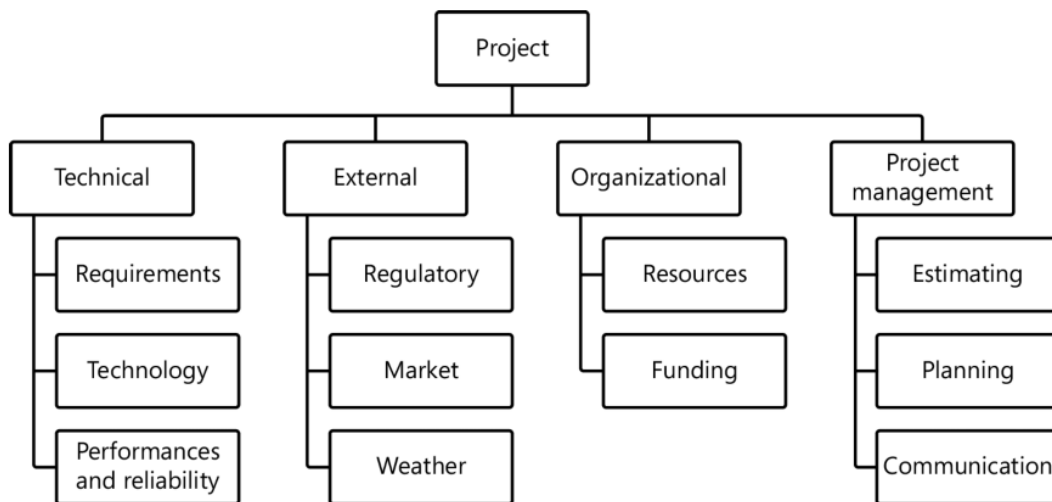

FIGURE 9-2 The development of risk categories using a risk breakdown structure.
- An initial analysis of the individual risk categories using a *risk breakdown structure (RBS)*. Figure 9-2 shows an example of a risk breakdown structure.